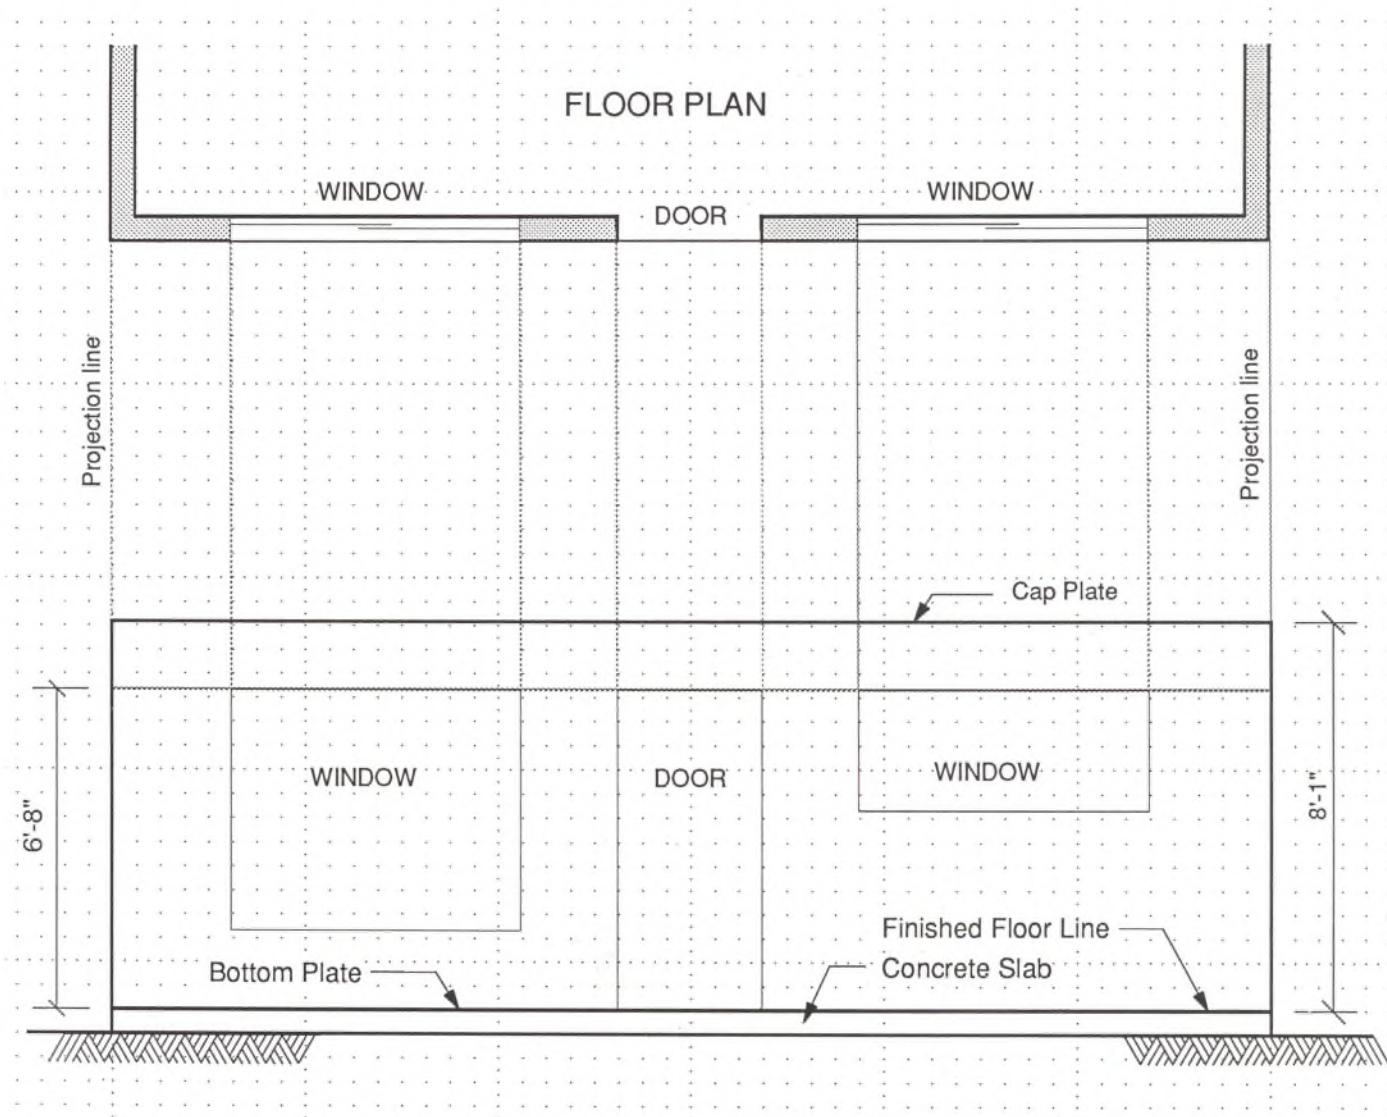

Fig. 24.6 Locate and draw the windows and doors.
1. Measure *up* from the bottom-plate line 6' - 8" in 1/4" scale and draw a light horizontal line across the drawing to indicate the top of the doors and windows. (See Fig. 24.6.)
2. Extend light projection lines from the outer edge of each window and door on the floor plan, through your elevation drawing, as shown in Fig. 24.6.
4. With a slightly heavier pressure on your pencil, or a heavier lead, draw around each window and door so that it is clearly distinguishable, as shown in Fig. 24.6.